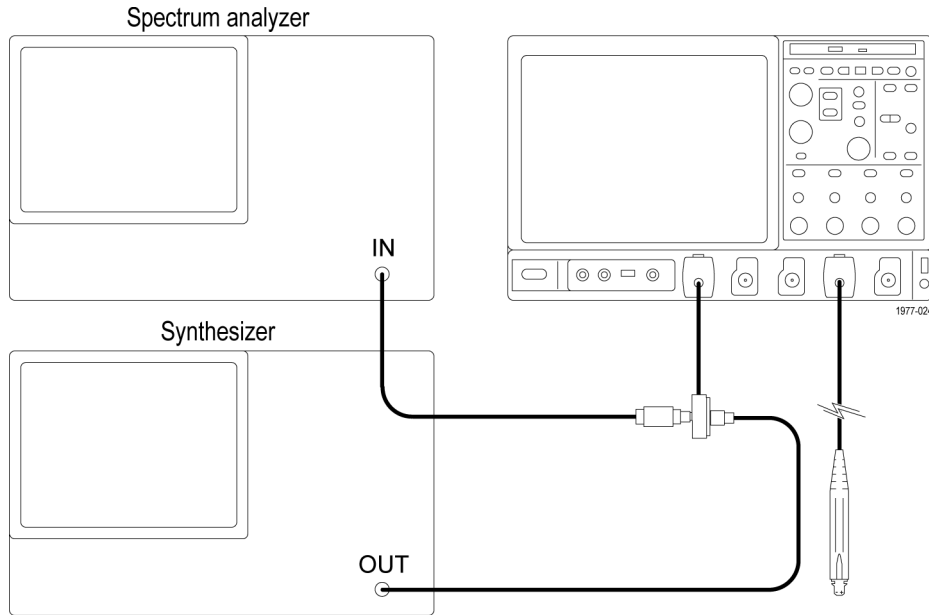

Figure 15: Alternate Bandwidth and CMRR test setup
1. Connect the equipment as shown. (See Figure 15 on page 31.) This setup is identical to the network analyzer setup in the main procedure, except that the synthesizer and spectrum analyzer replace the network analyzer. (See Figure 10 on page 20.)